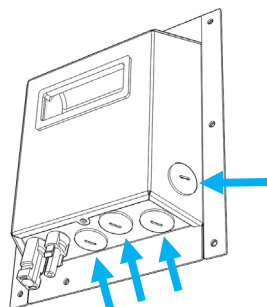
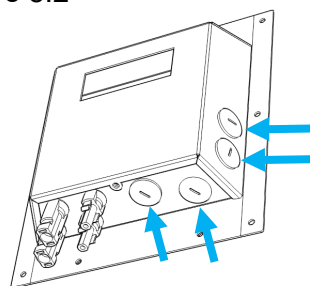

Figure 8.2
Figure 8.3
2. Remove the appropriate caps on the wiring cover to support the installation of the conduit tube. Each wiring cover has 4 knockouts, figure 8.2 represents the 24K unit and figure 8.3 represents the 36K unit. Each knockout is a 1/2" nominal trade size.
- a. The 24k indoor unit (Figure 8.3) supports up to three indoor units (A, B, C), while the 36k outdoor unit (Figure 8.4) supports up to four indoor units (A, B, C, D). When connecting the signal cables to the outdoor unit, connect the first indoor unit to the terminal block marked 'A', the second to 'B', and so on. Each wire within the signal cable is labeled 1, 2, 3, and G, along with color codes (see table below). Match the individual terminals for areas A, B, C, and D.